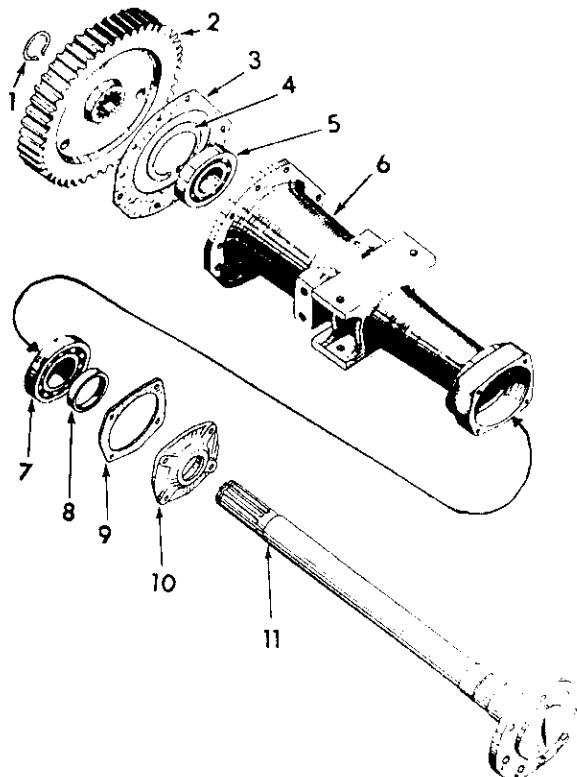

Fig. 122—Exploded view of axle, axle carrier and component parts used on Series 424, 444, 2424 and 2444.
On Series 424, 444, 2424 and 2444, remove snap ring (1—Fig. 122), unbolt axle carrier (6) and withdraw axle, axle carrier and fender assembly.